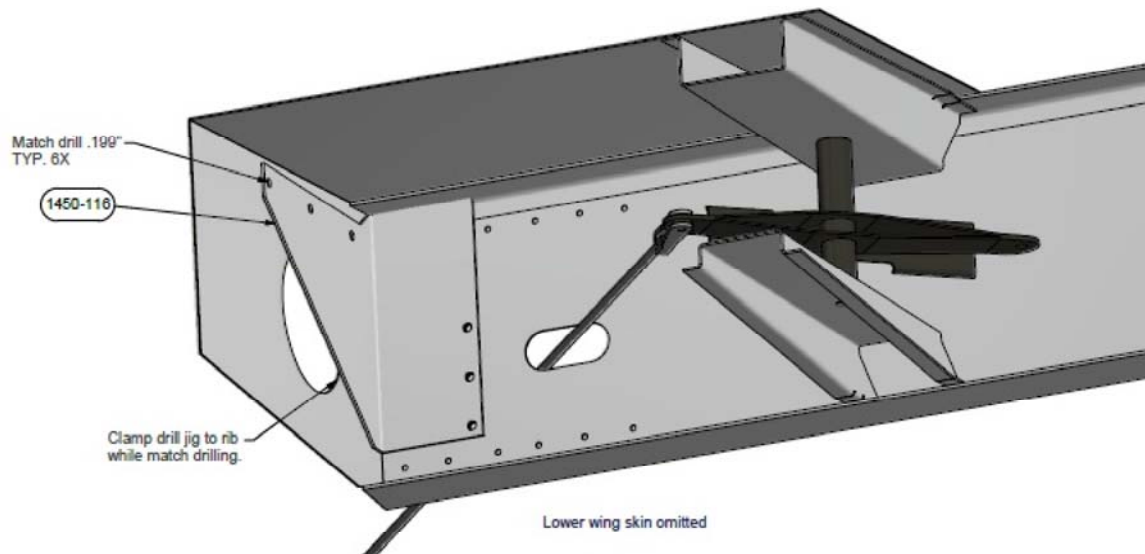
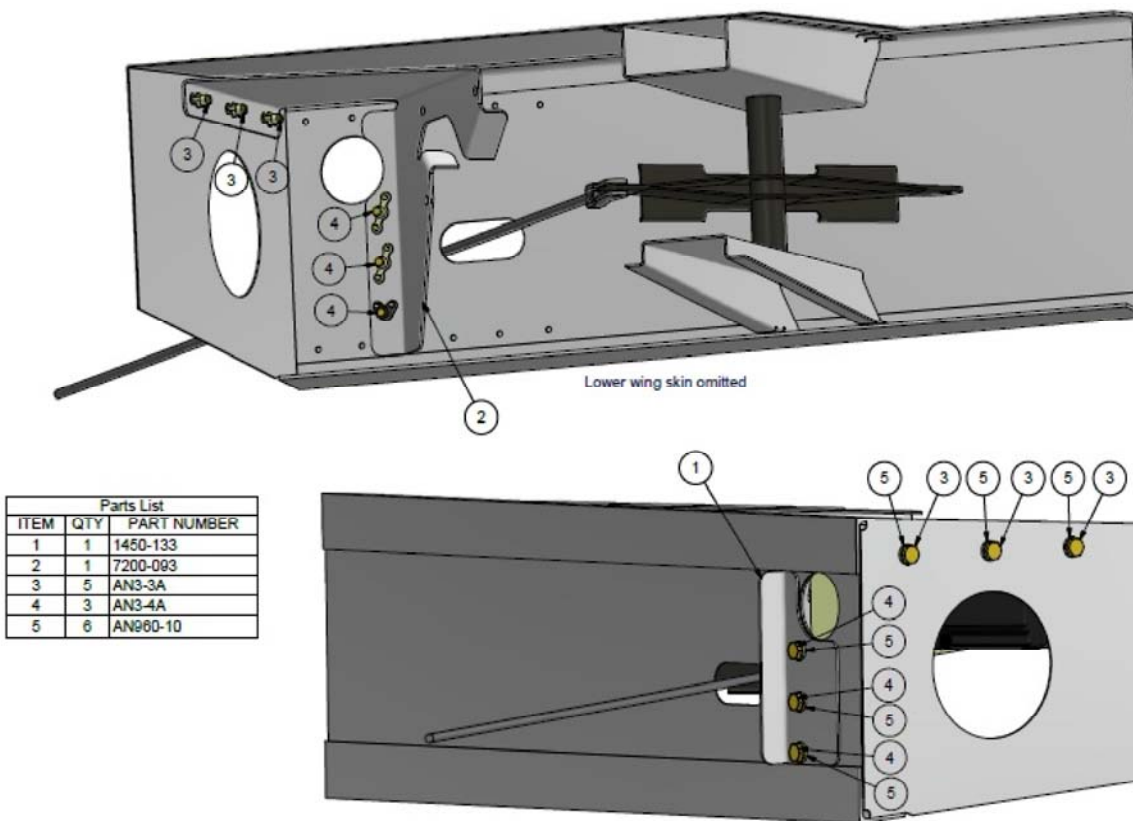

Figure 2-2
Figure 2-3
- (1) Working through inspection hole 1, locate Cessna 177 Roll Drill Jig (P/N 1450-116) as shown in Figure 2-2, Vertical spacing of the drill jig is accomplished by placing the top surface of the forward portion of the jig against the upper spar flange.
- (2) Clamp the drill jig to the rib through the lightening hole as shown. Ensure that the drill jig is firmly against the spar and rib.
- (3) Match drill the spar and rib in 6 places through the drill jig. After drilling each hole secure the drill jig to the aircraft using a cleco or 10-32 fastener to restrict movement of the drill jig.
- (4) After drilling is complete remove the drill jig from the aircraft.
- (5) Place the Cessna 177 Roll Bracket Assembly (P/N 7200-093) in the wing and position as shown in Figure 2-3, Align the holes in the bracket assembly with the holes in the spar.
- (6) Check to see if the see if the Cessna 177 Roll Bracket Assembly (P/N 7200-093) sets on top of the rivets in the upper and lower spar caps. If the rivet heads are covered by the bracket assembly it will be necessary to clearance the bracket assembly so that it sits flat against the spar web.
- (1) Place the Cessna 177 Roll Bracket Assembly as shown in Figure 2-3.
- (2) Place the Cessna 177 Roll Doubler (P/N 1450-133) on the front side of the spar as shown in Figure 2-3.
- (3) Check to see if the see if the Cessna 177 Roll Doubler (P/N 1450-133) sets on top of the upper or lower spar caps. If the either spar cap is covered by the doubler it will be necessary to trim the doubler so that it sits flat against the spar web.
- (4) Install AN3 bolts in locations shown in figure 2-3 placing an AN960-10 washer under each bolt head. Torque bolts to 20-25 in-lb.